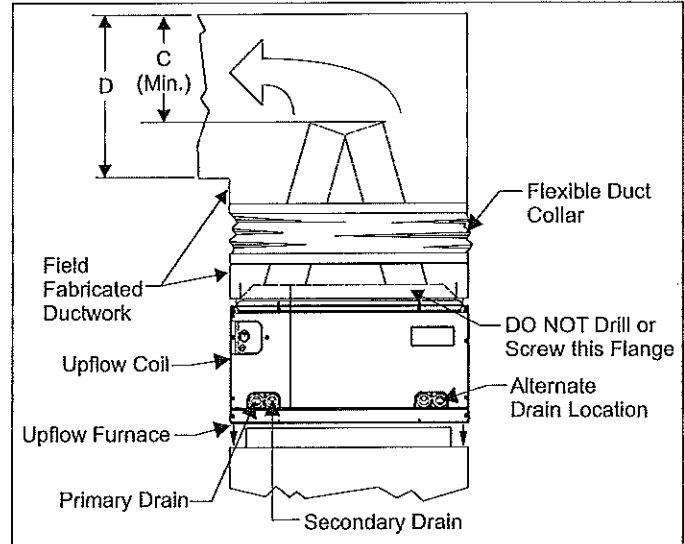

FIGURE 10: Upflow Coil Installation
1. Position the coil casing over the furnace opening as shown in Figure 10.